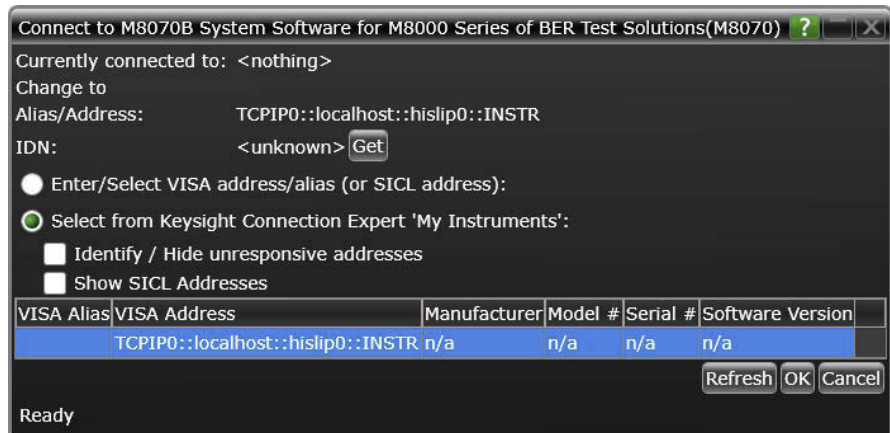

Figure 8 Connecting to M8070B if multiple instances are active
- If the M8091BMCA Receiver Conformance Test Application detects more than one instance of the M8070B software running, the **Connect to M8070B System Software for M8000 Series of BER Test Solutions (M8070)** window appears (Figure 8).